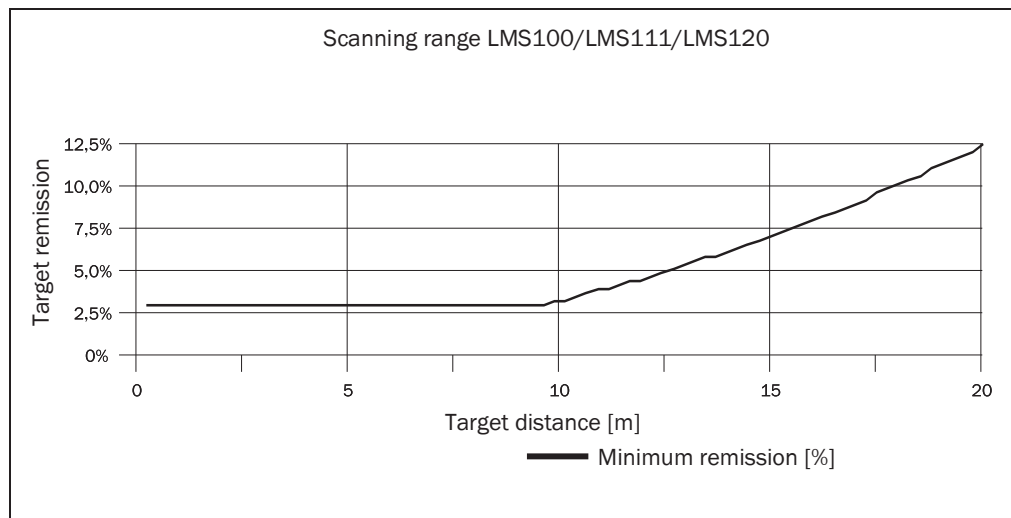
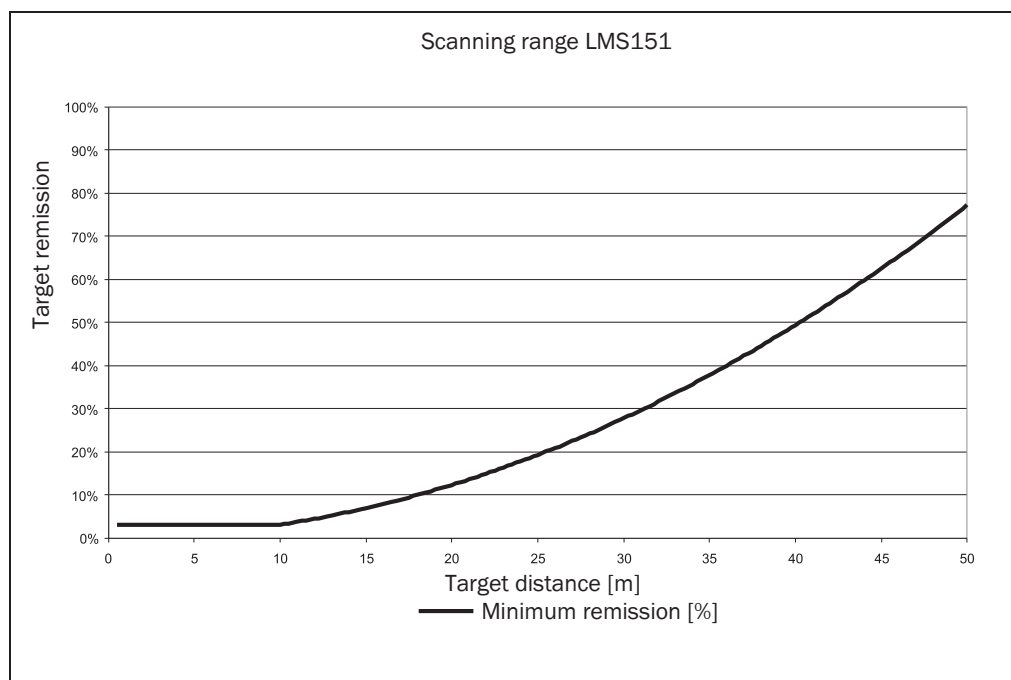

Fig. 12: Scanning range of the LMS100/LMS111/LMS120 as a function of the target remission
Fig. 13: Scanning range of the LMS151 as a function of the target remission
The scanning range of the LMS is dependent on the remission of the objects to be detected. The better a surface reflects the incident radiation, the greater the scanning range of the LMS. The diagrams in Fig. 12 and Fig. 13 indicate the relationship between remission and detectability.
**Important** The diagrams in Fig. 12 and Fig. 13 are only applicable if no filters are configured.